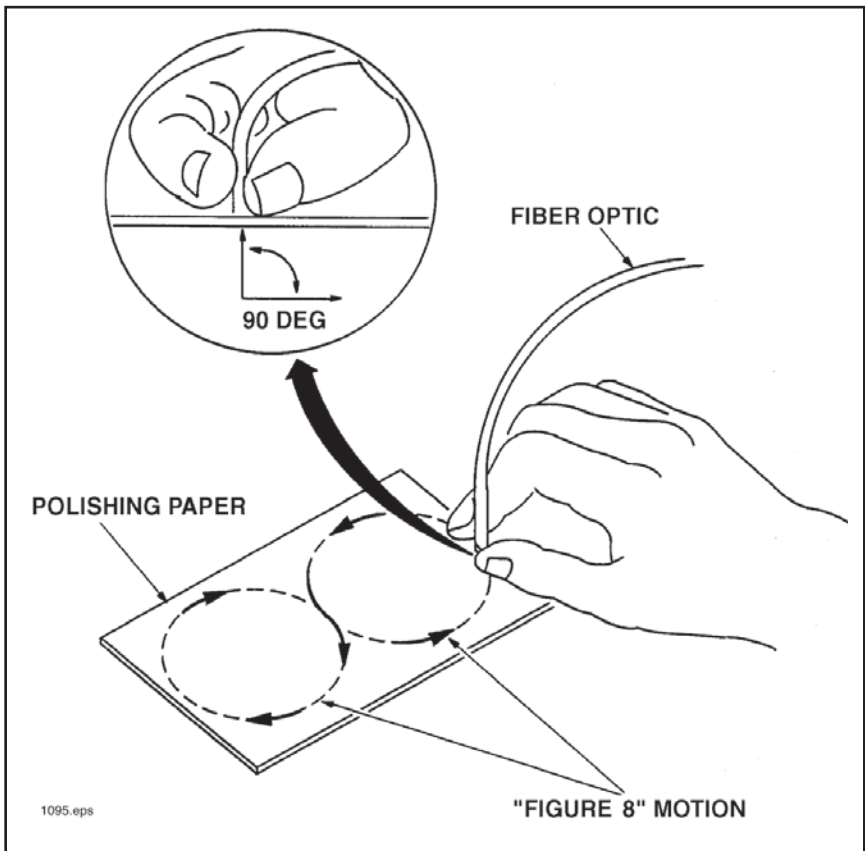

Figure 3. Pattern and orientation of the optical fiber during polishing.
2. Wet the 600 grit polishing paper with water or light oil and place it on a flat, firm surface. Hold the optical fiber upright, at right angles to the paper, and polish the fiber tip with a gentle “figure-8” motion as shown in **Figure 3**. You may get the best results by supporting the upright fiber against some flat object such as a portion of a printed wiring board.